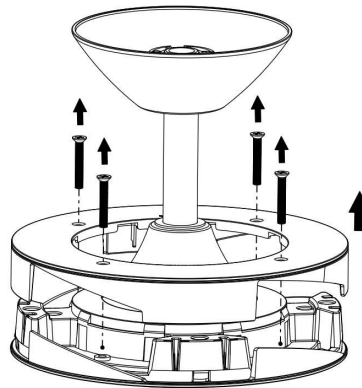

Fig. 3.1
1. Unscrew the 4 screws from the cover of the fan blade and lift the blade cover; (Fig.3.1)